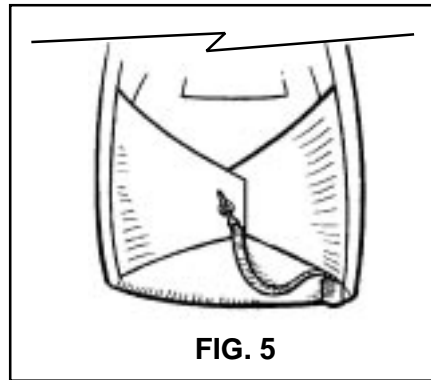

FIG. 5
3. Tuck about 12 inches of bridle under the right flap being sure to make it snag proof and secure (**FIG. 5**).
5. Close the right side flap then the left side flap. Secure the closing loop with the pin (FIG. 5).